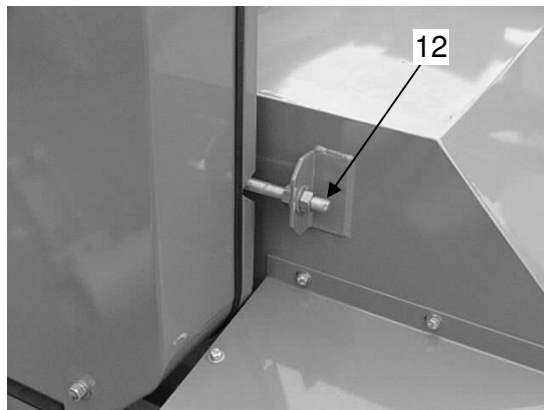

Figure 2
The drive for the flail shaft is transmitted by the centrally mounted gearbox via four V' belts. Besides providing a drive the belts also act as a slip clutch. It is therefore important that the belt tension is sufficient to drive normally without slip but not so great that the belt cannot slip when the flails are obstructed. To adjust the V' belt tension reposition the adjuster (item 1, figure 2). The correct adjustment should allow 10-12mm of deflection of the belts at appoint mid way between the pulleys.